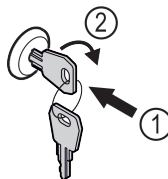

Fig. 189
- Insert the key. Fig. 189 (1)
- Turn the key clockwise by 90°. Fig. 189 (2)